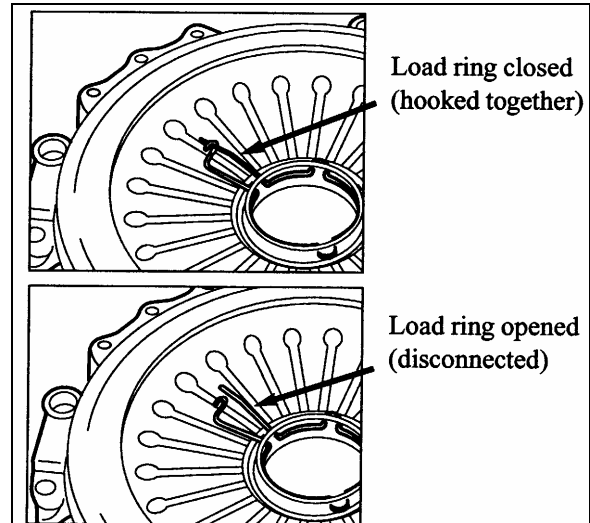

FIGURE 8: RELEASE BEARING RETAINING CLIP 07112
- Ensure that the release bearing retaining clip (located on the "fingers" of the pressure plate) is closed. Refer to figure 8.
- From underneath, push the clutch release bearing forward (in the direction of flywheel) using the release fork. Use force to snap the bearing into the retaining clip located on the “fingers” of the pressure plate. The installer should be able to both hear and feel the bearing seat into place. Refer to figure 8.